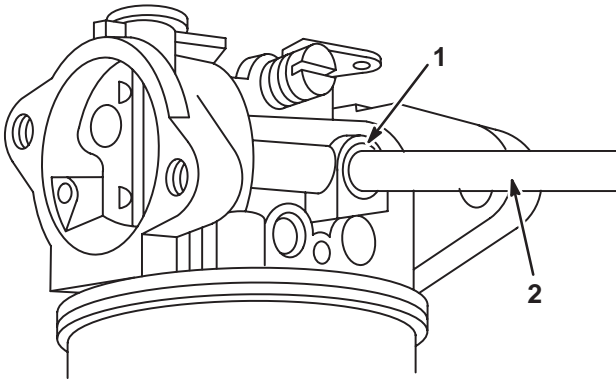

Fig. 26 – Installing Welch Plug
1. Install welch plug(s) with pin punch slightly smaller than outside diameter of plug, Fig. 26.